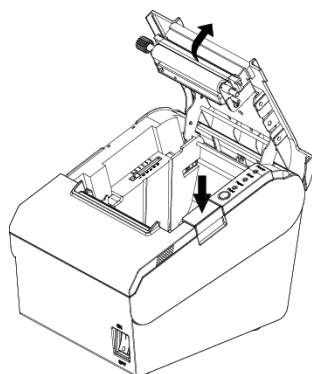

Figure 4.6.1
- 2) Pressing the open button, open the top cover of TP700 (Like figure 4.6.1)